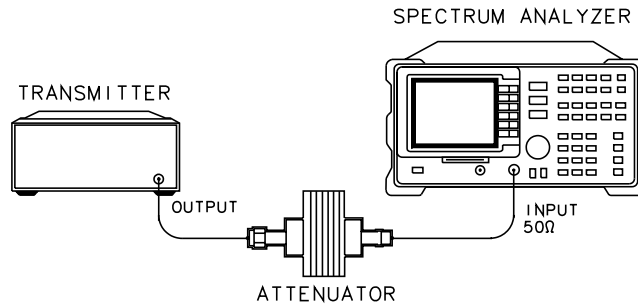

Figure 31 Test Setup for Initial Intermodulation Attenuation - RX Band
- 1 Connect the equipment as shown in Figure 31. Press **Intermod Atten**, then **RX BAND**. If a carrier is present, the spectrum analyzer measures the carrier to determine its peak power.